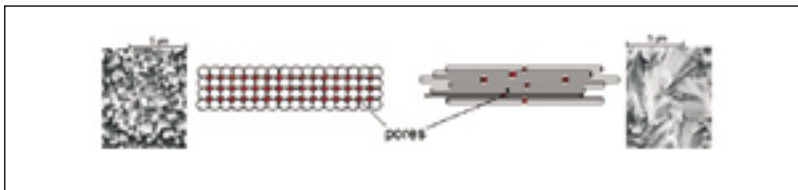

Figure 4 – Diagram of pores of small grain and large grain Tin finishes
- The big, flat Tin crystals of an Ormecon CSN FF / FF-W finish offer significantly less room (pores) for impurity inclusions compared to a small grain size Tin deposit. The small Tin grain size compared with the Ormecon large Tin grain size contains more pores (Figure 4).